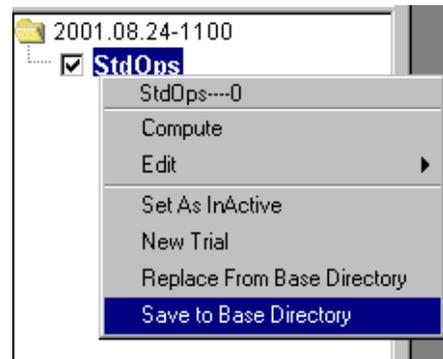
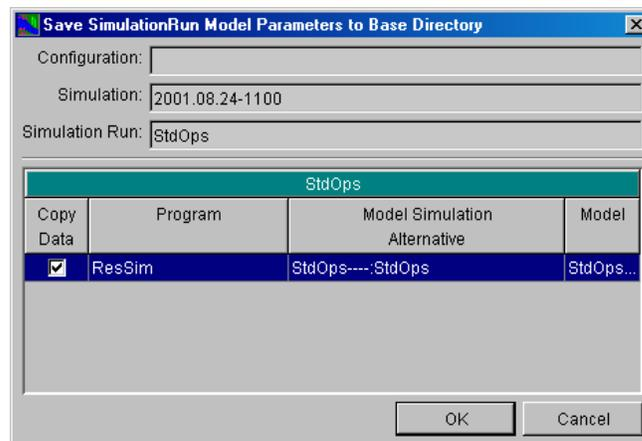

Figure 14.43 Alternative Shortcut Menu: Save to Base Directory
Figure 14.44 Save Simulation Run Model Parameters to Base Directory
1. In the Simulation Control Panel, right-click on the Alternative to access the shortcut menu, then choose **Save to Base Directory** (Figure 14.43). The **Save Simulation Run Model Parameters to Base Directory** dialog box will appear (Figure 14.44).